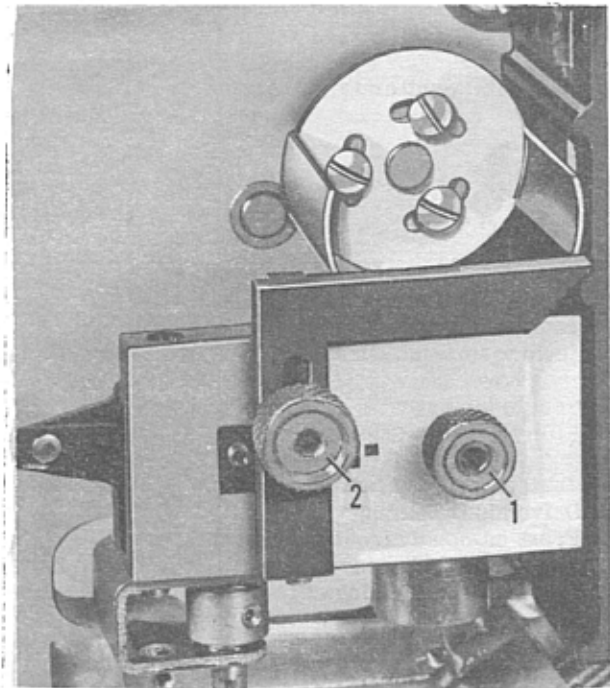

Figure 2-35. Synchronizing the Shutter and Intermittent Mechanism
h. Turn front camshaft (34) and rear camshaft (38) until the registration pin is to the right of the shaft (when facing mechanism plate). Rotate the shutter until the shutter blades form a parentheses () above the camshafts. Install shutter and intermittent gage (Tool No. S-061081-N15) as shown in figure 2-35, and lock gage in place by installing knurled nut (1) on front camshaft. Loosen knurled nut (2) and raise the gage bar up against shutter blades. Tighten knurled nut (2) to hold gage bar in this position. Tighten set screws (37 and 48) securely, remembering that both camshafts and the shutter must revolve freely but with a maximum end play of 0.0005-inch. Remove the gage.
i. Fasten mounting bracket (63) to mechanism plate with screws (64), lock washers (65) and flat washers (66). Do not tighten screws until aperture plate mounting bracket has been aligned (paragraph 2-169).
j. Install front cam (18) on front camshaft (34). Install rear cam (17), retaining washer (16) and cam lock stop nut (15) on rear camshaft (38). Install spacer (22) and bushing (21) on shaft of pivot bar (55). Hook spring (9) into hole in end of shuttle (23) and install shuttle over cams and pivot bushing. Sapphire jewel inset in center shuttle tooth must be on bottom of tooth when shuttle is installed. Hook free end of spring (9) into hole in bent arm at rear of mounting plate (39). Install spacer (20) over outer diameter of pivot bushing (21) and install washer (19) up against